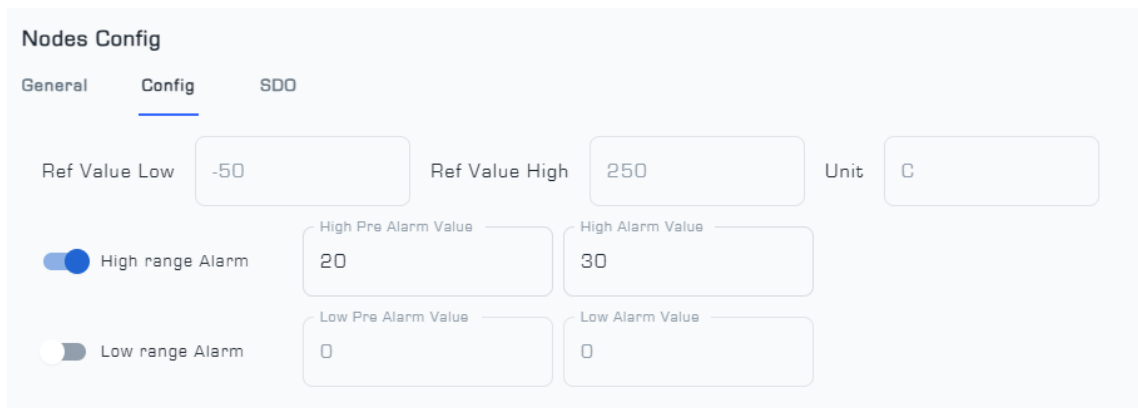

Figure 6: Config Menu from Nodes Config page
- As depicted in Figure 6, the Type-K Thermocouple Temperature node's configuration menu allows for customization of the Node's alarm settings. The High Alarm Value and High Pre-Alarm Value parameters define the thresholds for triggering a primary and secondary alarm when the Node's temperature exceeds a critical maximum. Conversely, the Low Alarm Value and Low Pre-Alarm Value parameters establish the thresholds for alarms when the Node's temperature falls below a critical minimum.